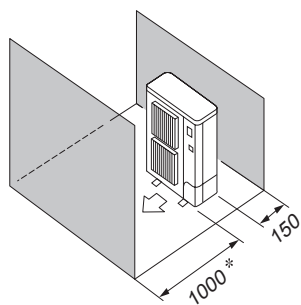

Fig. 4-10
- Obstacles at front and rear only (Fig. 4-10)